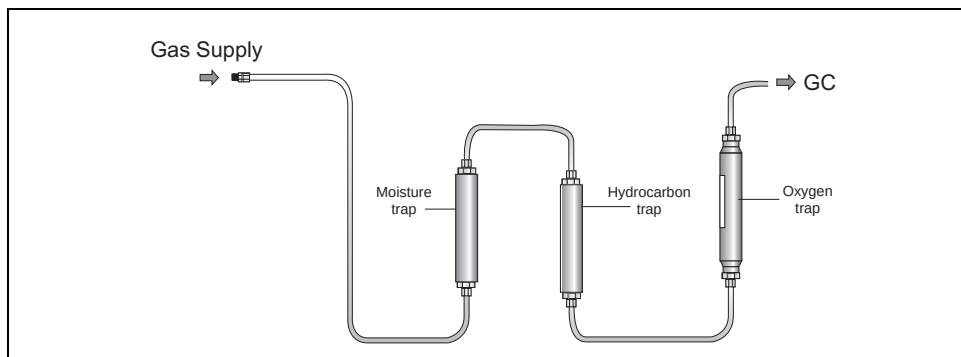

Figure 4-2. Gas Trap Order
You may wish to use traps, such as moisture or oxygen traps, in your gas supply line. Traps are especially necessary if you are unsure of the purity of your gas supplies. Refer to Gas and Plumbing Requirements in Chapter 1, Laboratory Preparation, for more information about gas purity requirements and appropriate traps for your GC. Figure 4-2 shows the proper order of traps in a gas supply line. Refer to your trap's instruction manual for specific purging and installation requirements.
1. Determine the location for the trap in your supply line. Figure 4-2 shows the recommended trap order.